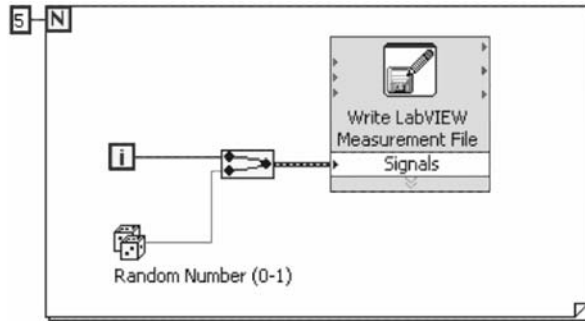

Figure 9.5 Write LabVIEW Measurement File.
**Write to/Read from Measurement File**—Express VIs that write or read data to or from a text-based measurement file (.lvm) or a binary measurement file (.tdm) format. It includes the open, write, close and error handling functions. This file handles formatting the string with either a tab or comma delimiter. The *Merge Signals* function is used to combine data into the dynamic data type as illustrated in Figure 9.5.